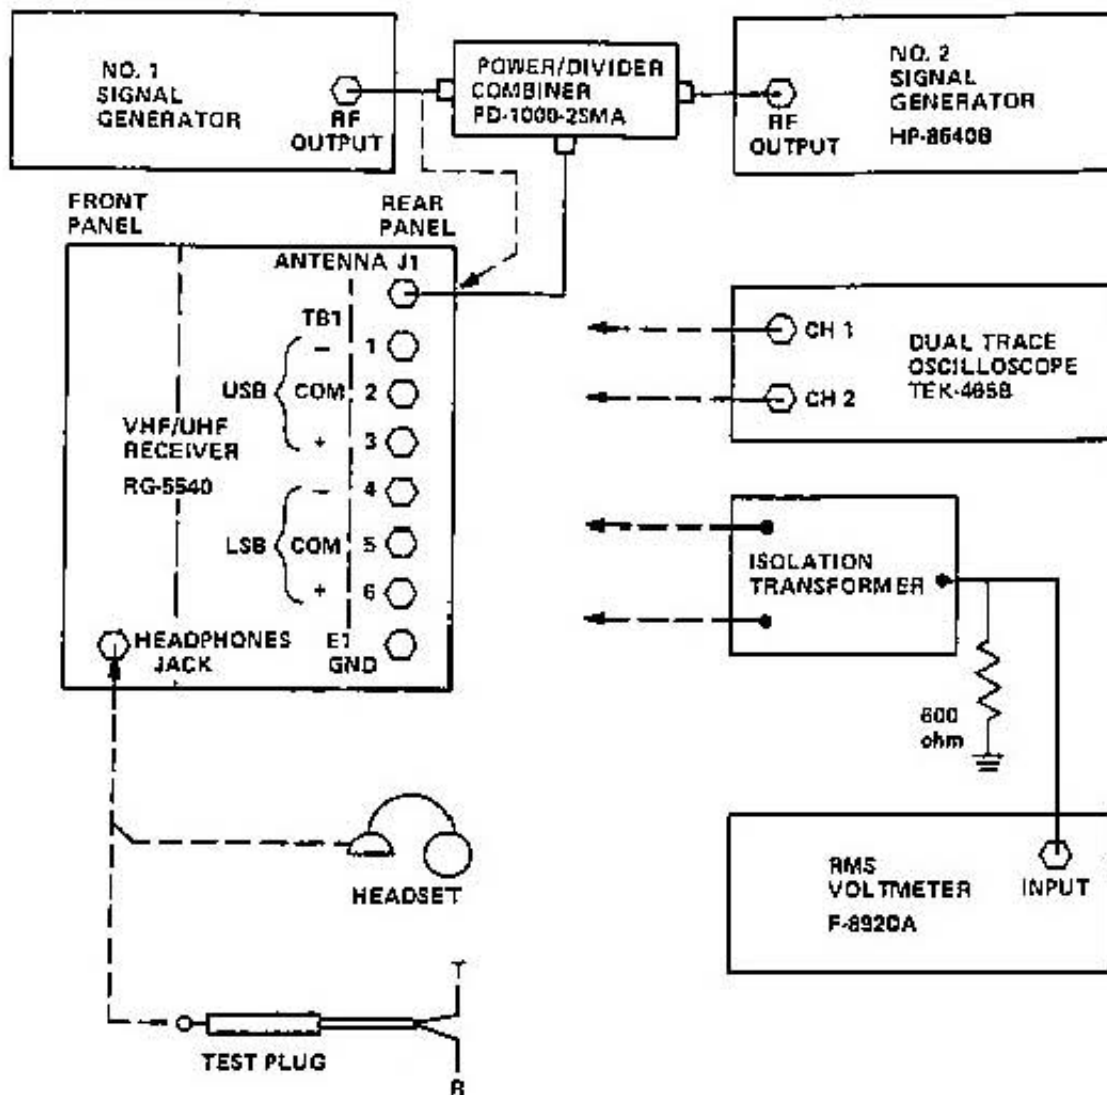

Figure 3. Audio Output Test
1. Connect test equipment as shown in Figure 3 with oscilloscope connected to HEADPHONES jack (tip to channel 1 and ring to channel 2), and signal generator no. 1 connected directly to ANTENNA connector J1 on Receiver rear panel.
18. Refer to Figure 3 and connect two signal generators through power combiner to ANTENNA connector J1 on Receiver rear panel, then tune Receiver to 60.00000 MHz.
27. Disconnect oscilloscope and connect a signal generator to ANTENNA connector J1 on Receiver rear panel, then connect RMS voltmeter between terminals 1 and 3 of terminal block (TB1) through isolation transformer as shown in Figure 3.